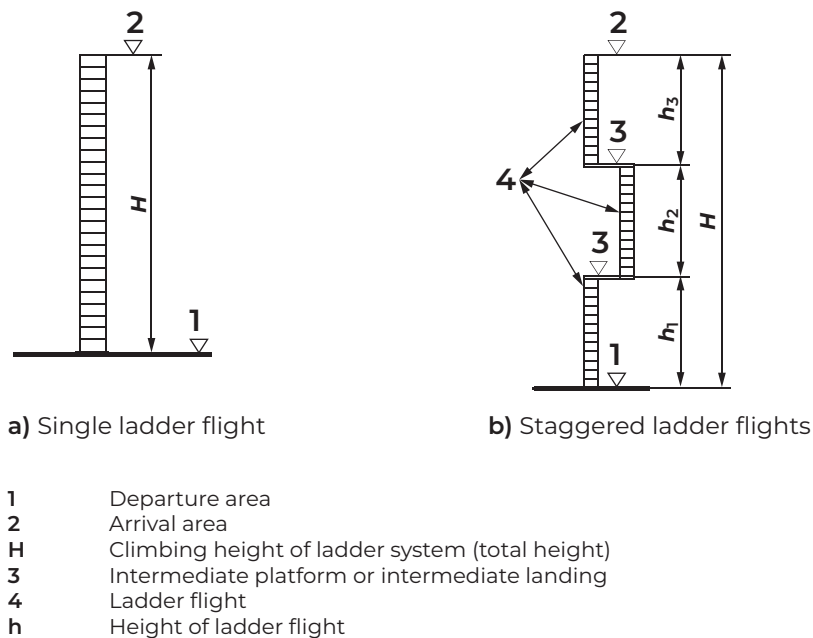

Figure-3 - Height of Flights and Location of Intermediate Platforms/Landings
- These systems must only be used by trained and authorized personnel (see Figure-3)